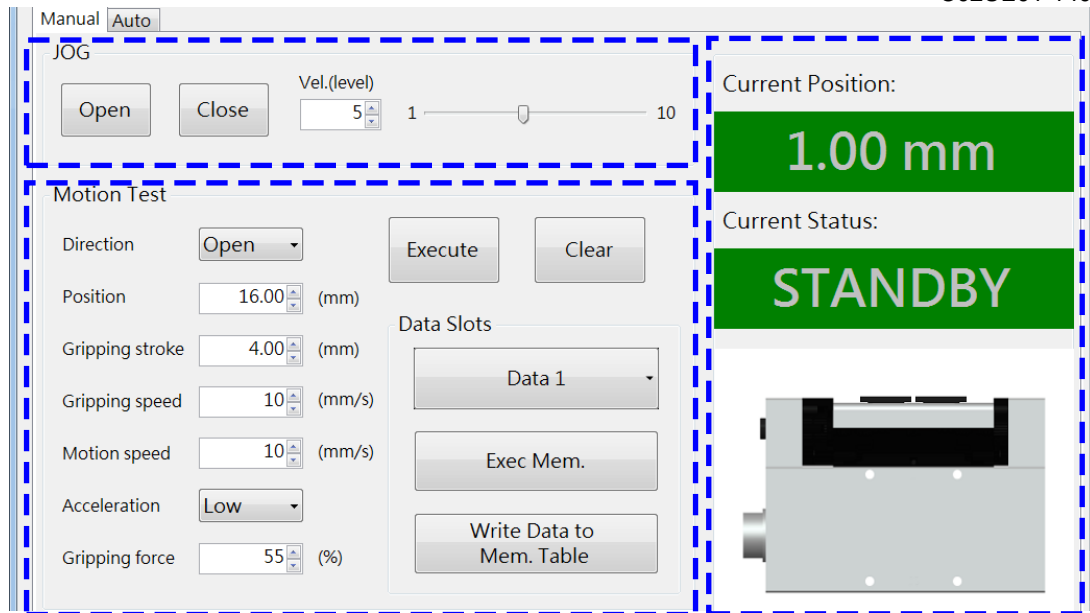

Figure 5.3 Manual tab
The [Manual] tab lets the user edit and adjust a single motion. The [Manual] tab is shown in Figure 5.3, which includes three sections: (1) [JOG], (2) [Motion Test], (3) [Current Position] and [Current Status].